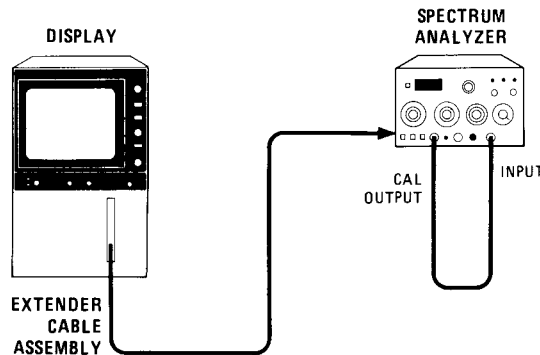

Figure 5-11. 1-dB Offset Adjustment Test Setup
2. Connect equipment as shown in Figure 5-11.